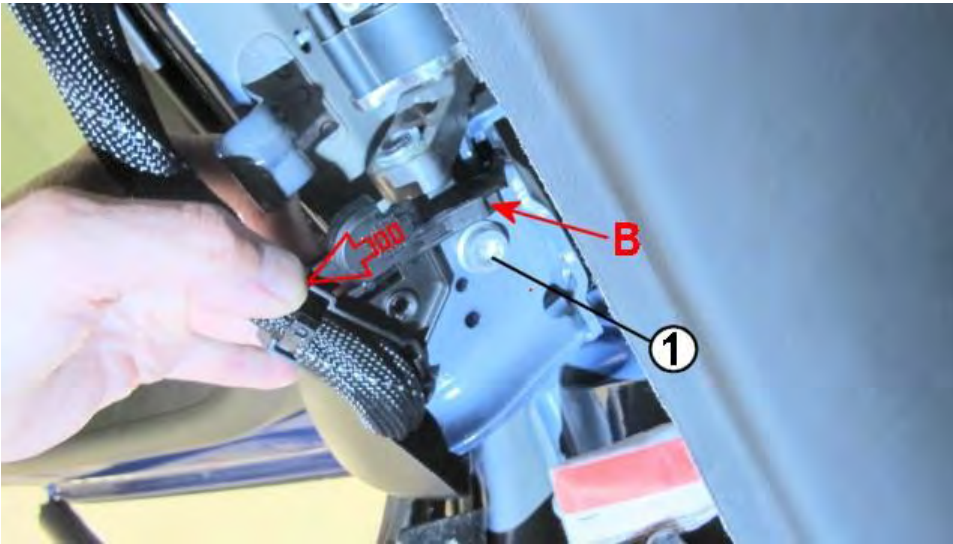

Figure 3
- With the retaining pin removed hold latch 'B' down and slide the harness and clip off the hinge to reveal the fastener -1- (see Figure 3)